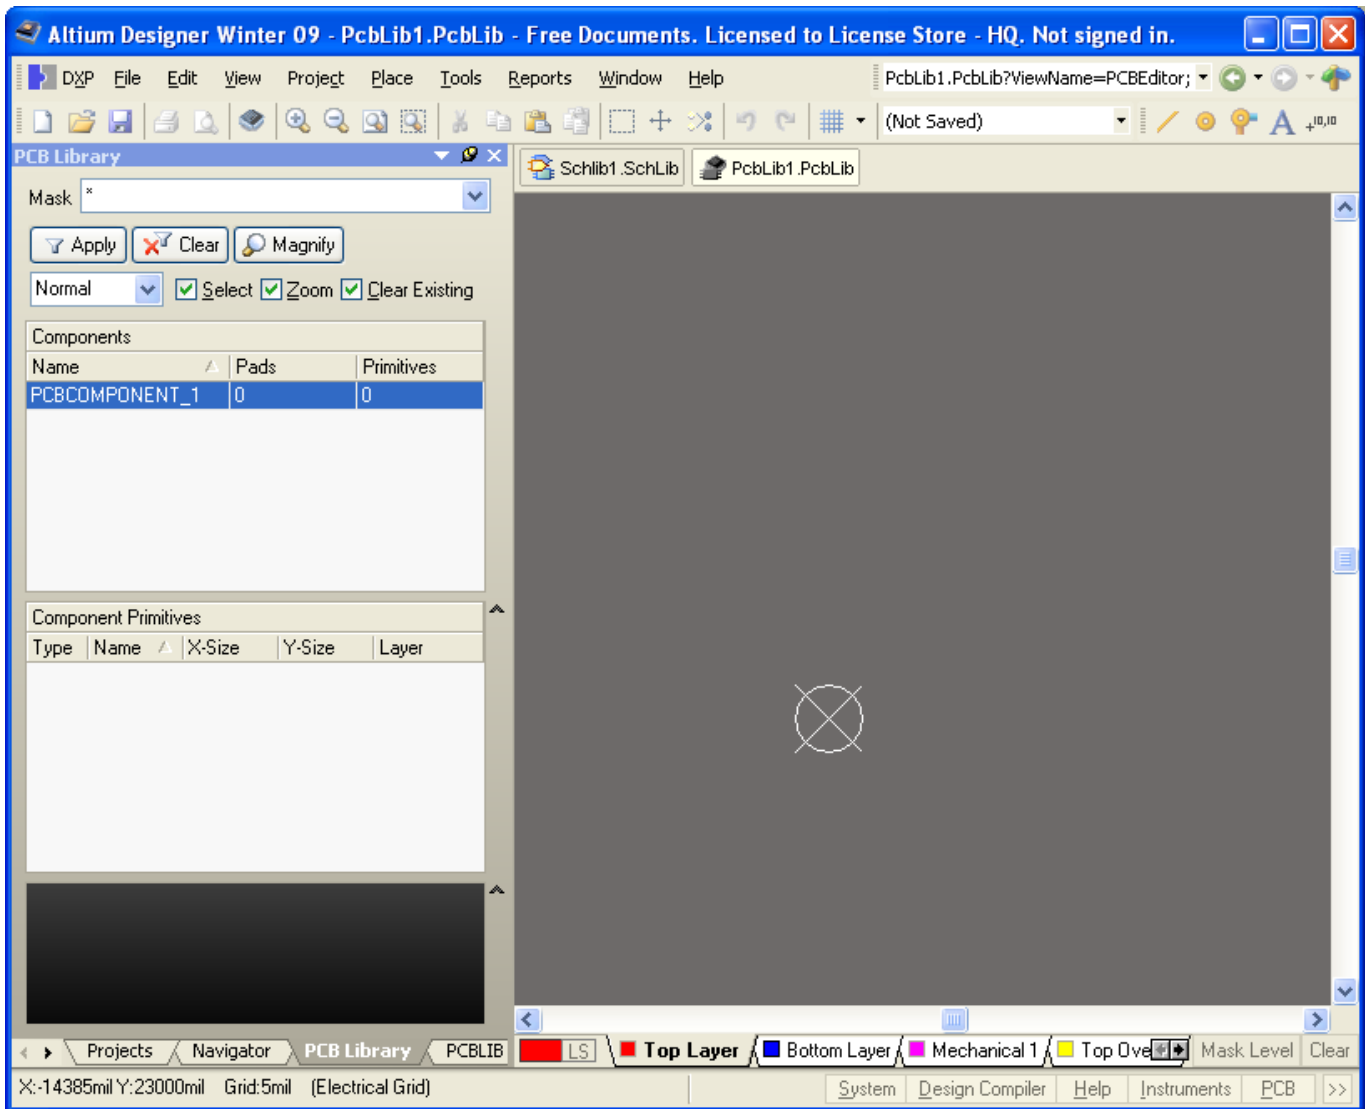

Figure 39. New PCB library, ready to create a footprint.
4. Click once in the grey area of the PCB Library Editor workspace and press the **PAGE UP** key a few times, until you can see the grid, as shown in Figure 39.